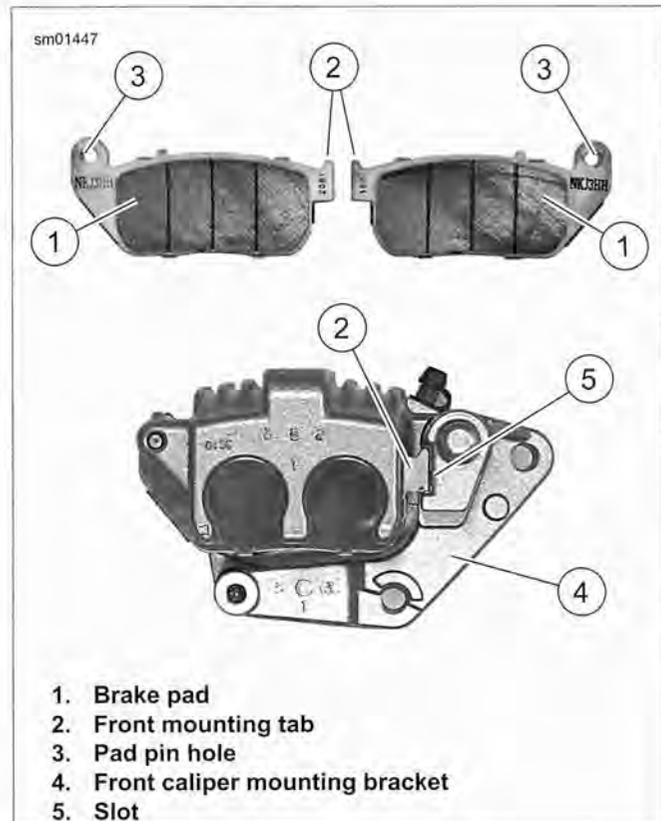

Figure 2-61. Front Brake Pads
1. See Figure 2-61. Insert one set of brake pads (1) into caliper with friction material on pad facing opening for brake disc. Curved portion of pad fits into recessed area of caliper. Make sure brake pad front mounting tab (2) fits into slot (5) in caliper mounting bracket (4).
- See Figure 2-61. Pad front mounting tabs (2) must be fully seated in mounting bracket slot (5).